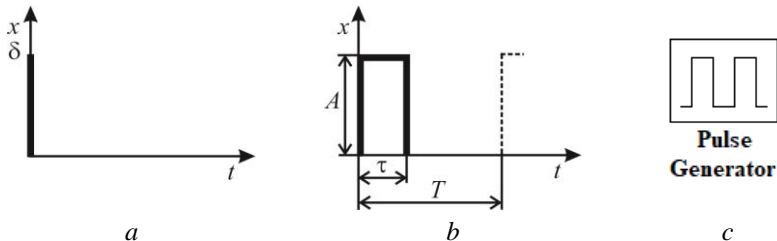

Figure 1.17 – Unit impulse function and its icon as the Pulse Generator block
– the input signal, the **unit impulse function** is a rectangle with an area equal to one, $S = 1$. The amplitude of the rectangle tends to infinity, $A \rightarrow +\infty$, the width its tends to zero, $\tau \rightarrow 0$, the period its tends to infinity, $T \rightarrow +\infty$, as shown in Figure 1.17,*a*.
The unit impulse function is described by the equation $x(t) = \delta(t)$ and is set by the Pulse Generator block. The Pulse Generator block generates square wave pulses at regular intervals, as shown in Figure 1.17,*b*. Its icon is shown in Figure 1.17,*c*.